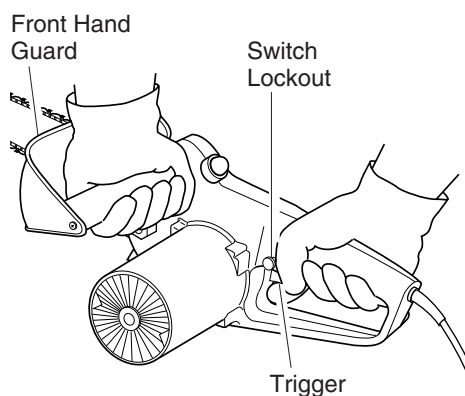

Figure 9 - Front Hand Guard, Switch Lock-out, and Trigger Location
3. Use both hands to grip saw. Always use left hand to grip front handle and right hand to grip rear handle. Use firm grip. Thumbs and fingers must wrap around saw handles (see Figure 9).
5. When ready to make a cut, press in switch lockout with right thumb and squeeze trigger (see Figure 9). This will turn saw on. Releasing trigger will turn saw off. Make sure saw is running at full speed before starting a cut.